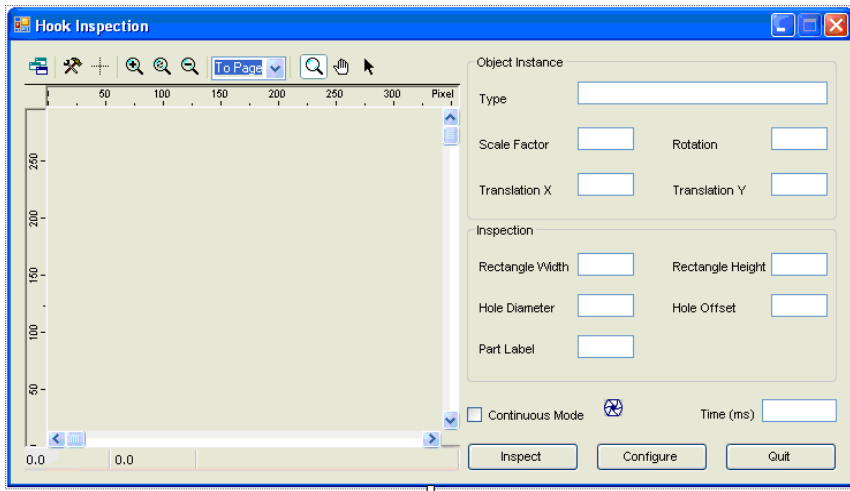

Figure 106 C# Form for Tutorial 5
1. On your application form, add one text box. Name it **LabelText** and add an appropriate label. Set up your form as illustrated in Figure 106.